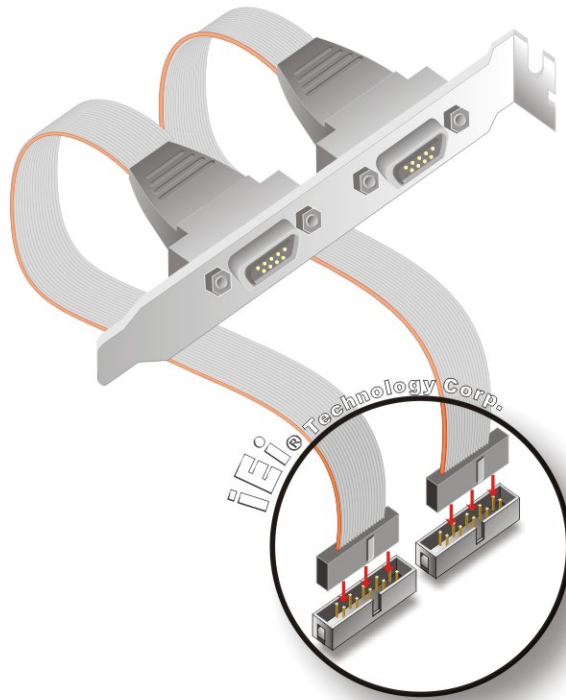

Figure 5-12: Dual RS-232 Cable Installation
Step 2: **Insert the cable connectors.** Insert one connector into each serial port box headers. See **Figure 5-12**. A key on the front of the cable connectors ensures the connector can only be installed in one direction.